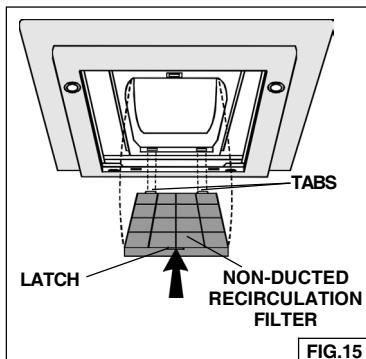

FIG.15
1. To remove the CHARCOAL filter, push-in on the front filter latch. Pull the filter down to disengage the rear filter tabs. Fig. 15